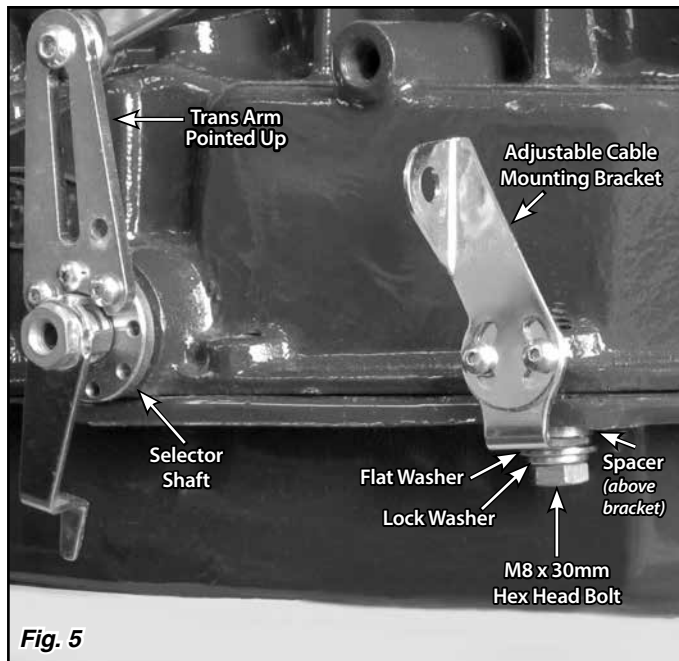
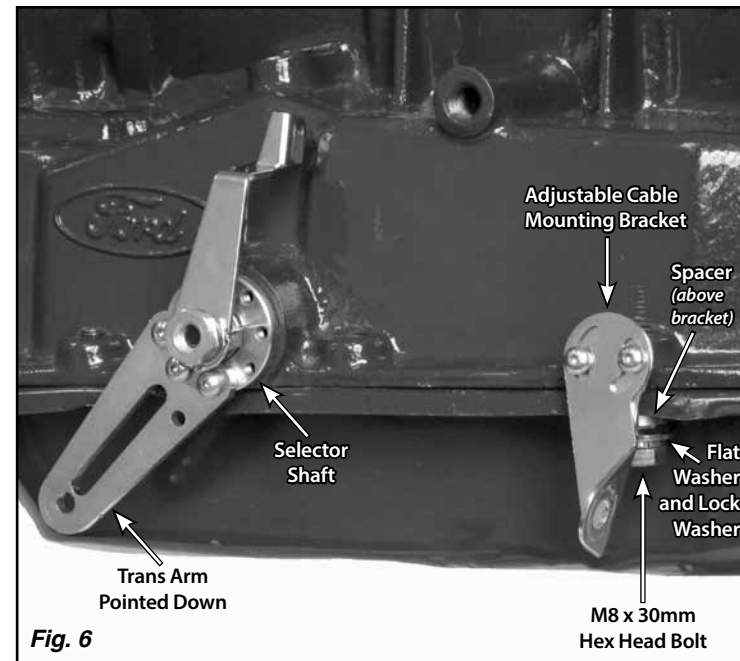

Fig. 5
Fig. 6
NOTE: If you have an aluminum transmission pan, the spacer may not be required. Fig. 5 and Fig. 6
- **With a Lokar selector shaft:** The trans arm has a 3/16" diameter hole in it for the indicator cable to connect to. Make sure that this hole is to the rear of the slot in the trans arm. If it is not, remove the trans arm and re-install it with the 3/16" hole to the rear of the slot in the trans arm. **Fig. 5 and Fig. 6**